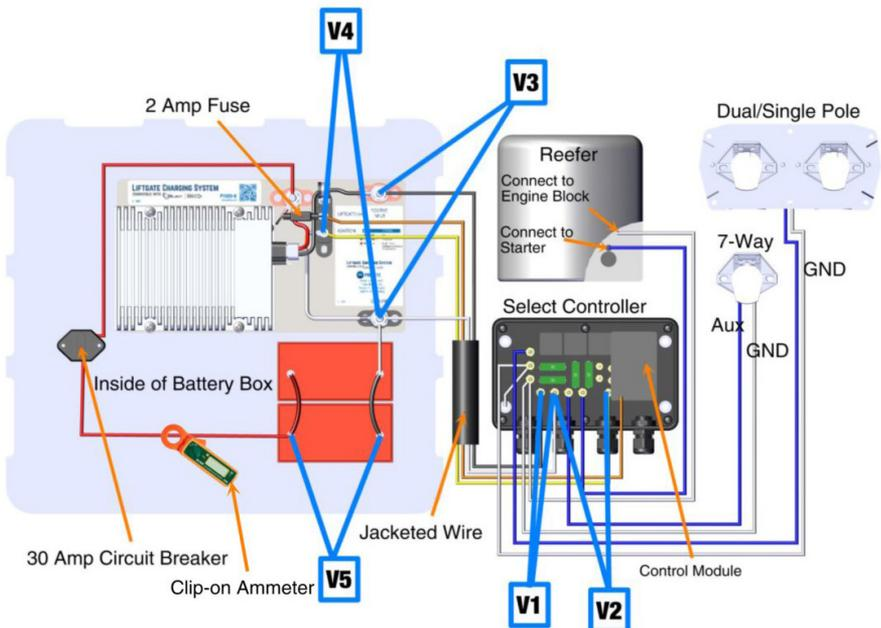

Figure 22
Step 1: Look at the Source LEDs on the Select Controller and ensure that one of them is Solid Green. If no, refer to the Stinger, Reefer, or Aux Diagnostics sections. If yes, measure the voltage at the DC/DC Converter Input (+) stud and Ground (-) Liftgate Battery (Fused) stud (see V1 on Figure 22). Voltage should be over 10.0 volts. If yes, go to step 2. If no, check 30 amp maxi fuses for the ground, stinger, reefer, and aux. If fuses are good, and voltage is still below 10.0 volts, replace the Control Module. If, after replacing the Control Module, the system still does not function properly, replace the Select Controller.
Step 2: With a voltmeter, measure the voltage at the ignition input (see V2 on Figure 22). Should be over 10.0 volts. If yes, skip to step 3. If no, replace Control Module.
Step 3: With a voltmeter, measure the input and ignition voltages at the P1020-K Liftgate Charging System Plate Assembly (see V3 and V4 on Figure 22). Both should be over 10.0 volts. If no, repair or replace the wires between the Select Controller and the P1020-K Liftgate Charging System Plate Assembly. If both voltages are over 10.0 volts, move to reference 13.
Step 2: Measure the voltage at the liftgate batteries (See V5 on Figure 22). If higher than 14.0 volts, the charging system is functioning properly. If no, continue to step 3.
Step 3: Using a clip-on ammeter, measure current flow (see clip-on ammeter on Figure 22). If above 10.0 amps, the system is working. Allow time for the liftgate batteries to charge. If below 10.0 amps and the voltage is below 14.0 volts, check the wiring and connections to the DC/DC converter. If problem continues, replace the DC/DC converter.